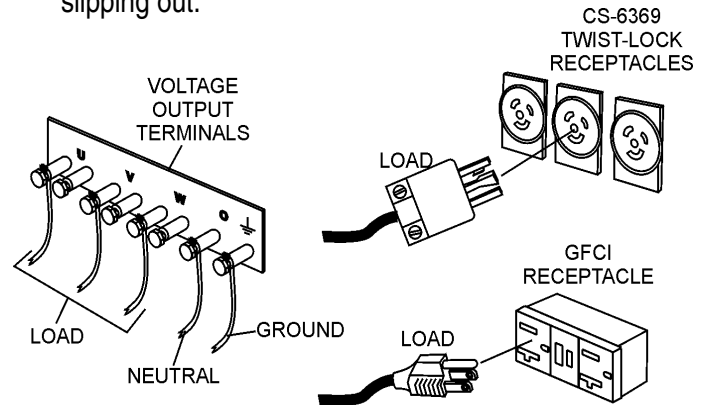

Figure 35. Load Connections
2. Connect the load to the **UVWO** terminals or **auxiliary receptacles** as shown in Figure 35. These load connection points can be found on the output terminal panel. To gain access to the UVWO terminals or other power receptacles, unlock the access cover and lift the door.